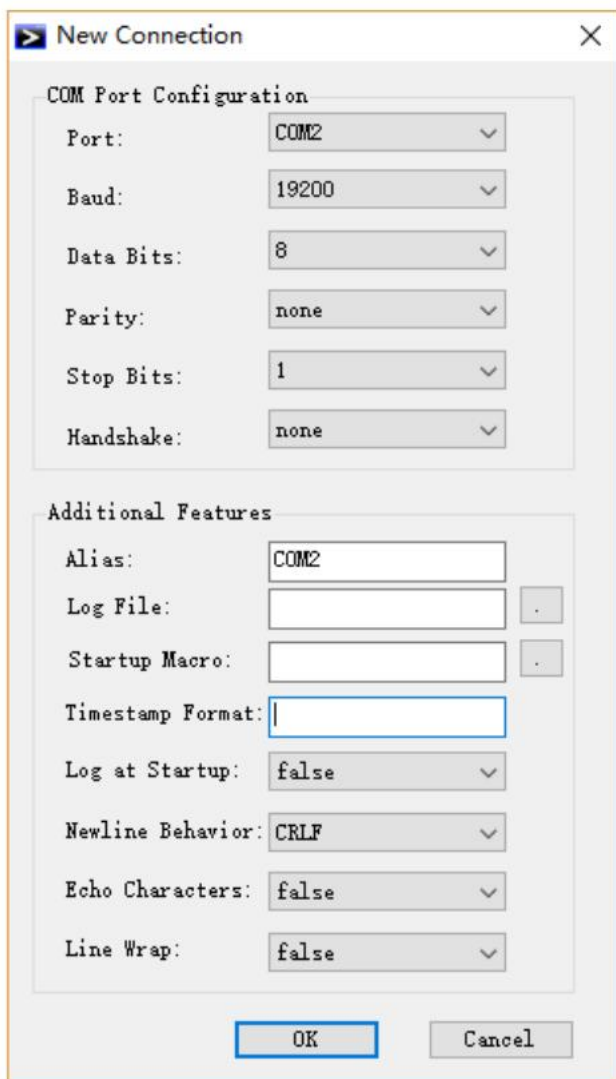

Figure 9.21 Foxterm Settings dialog box
3. Select the correct **port** and **baud rate**. In this example, use **COM2**. The settings are as shown in Figure 9.21.